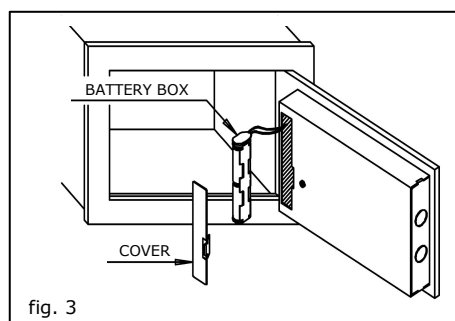

fig. 3
- Open the safe and take the battery case out of its housing by simply removing the plastic top that covers it (see fig. 3).